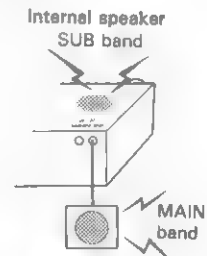

Fig. 2
- When connect a speaker to MAIN jack, audio from MAIN band will be heard from the external speaker and audio from SUB band will be heard from the transceiver's internal speaker. (Fig. 2)